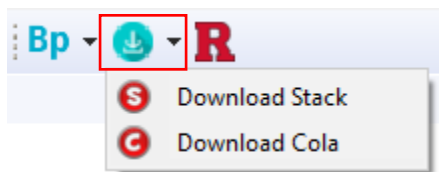

Figure 28: Download Stack/Cola Application (See Toolbar)
8. Now download Stack and COLA application to the target DUT (Figure 28).